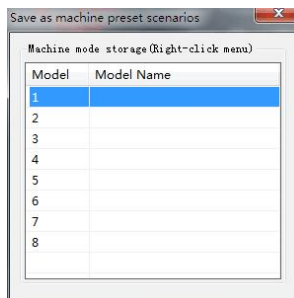

Figure 3.4.4
**Step 4:** Enter a name (such as 4-abc), named in the point you want as shown in "Input Scene name" dialog box shown in 3.4.3 "OK" button to save and return as shown in Figure 3.4.4. Point "Exit" button to complete the save as preset scene machine operation. This completes the scene to save the current operating mode of the machine to the machine presets Group 4, and is also the current machine running scene, you can see the upper left corner of the software will display the current run of the name of the preset scene.